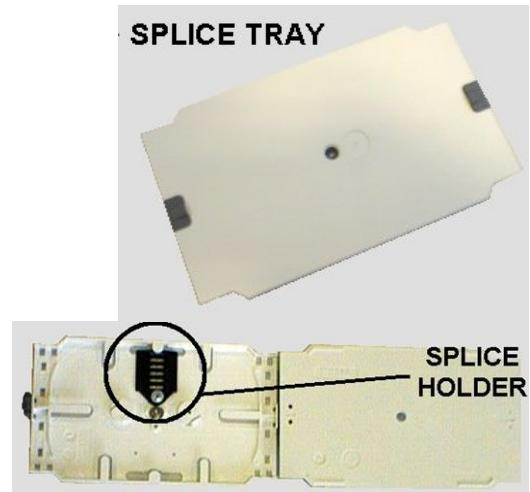

Fig. 3.32: (a) Splice tray. (b) Inside of the splice tray, with the splice holder properly positioned.
- 4 - Fix a splice holder (not included) inside the proper splice tray (not included; fig. 3.32). Makes the splices between the fiberoptics patchcords coming from the